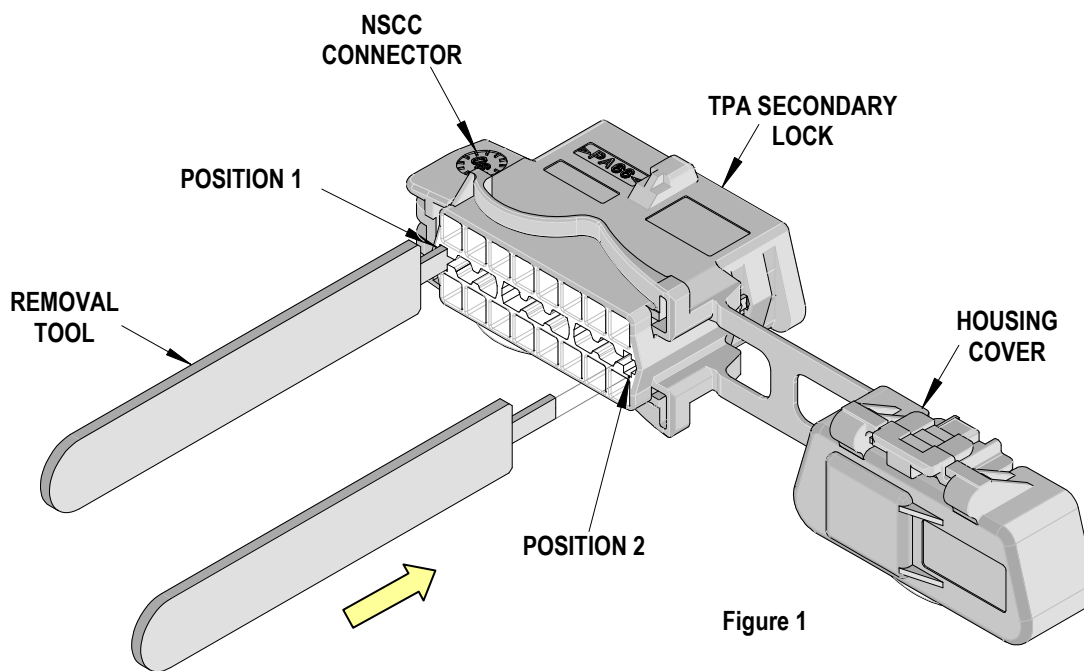

Figure 1
3. Next insert the tip of the removal tool into the opposite side slot and push in until it stops (position 2). See Figure 1.